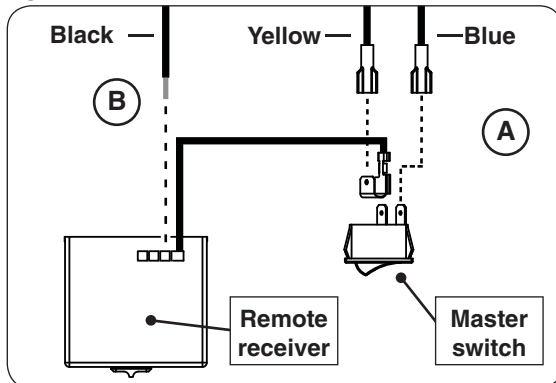

Fig. 24-2 Disconnect receiver & switch wires
- Disconnect the yellow and blue wires (with connectors) from the rear of the master switch (see Fig. 24-2, A).
- Disconnect the black stripped wire from the rear of the remote receiver (see Fig. 24-2, B). Use a small Phillips screwdriver.